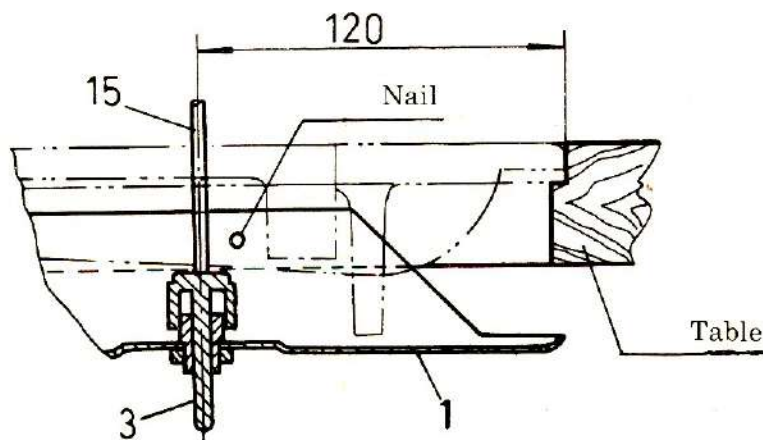

Fig.1
(2) Installing the oil reservoir (fig.1)
Install the oil reservoir(1) in the corners of the machine table. Contact the knee lifter lifting rod(3) with the knee lifter lifting lever(15) (fig.1, in 120mm). Fix the screw on two sides of the oil reservoir.
(3) 安裝機頭(見圖二)